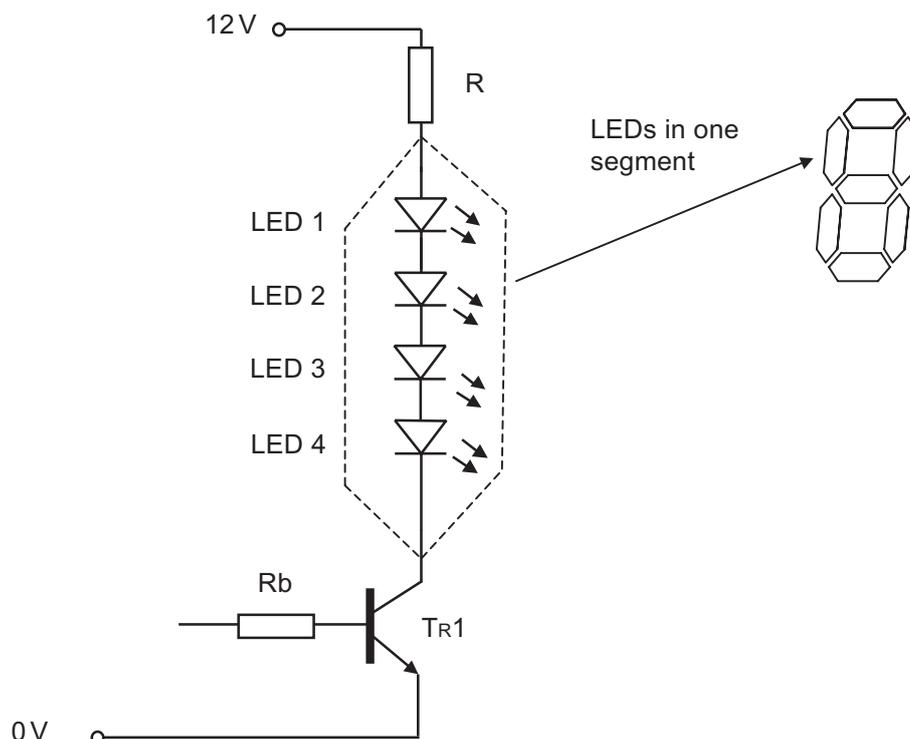

Fig. 2(c)
- (c) In the large seven segment displays used to indicate the number of seats available each segment consists of 4 LEDs connected as shown in **Fig. 2(c)** The current in each LED is 20mA and the forward voltage of each LED is 2.5 volts.